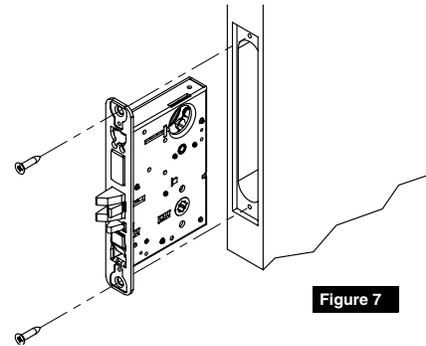

Figure 7
2. Insert mortise lock into door and hand tighten longer 1" mounting screws. (Figure 7)